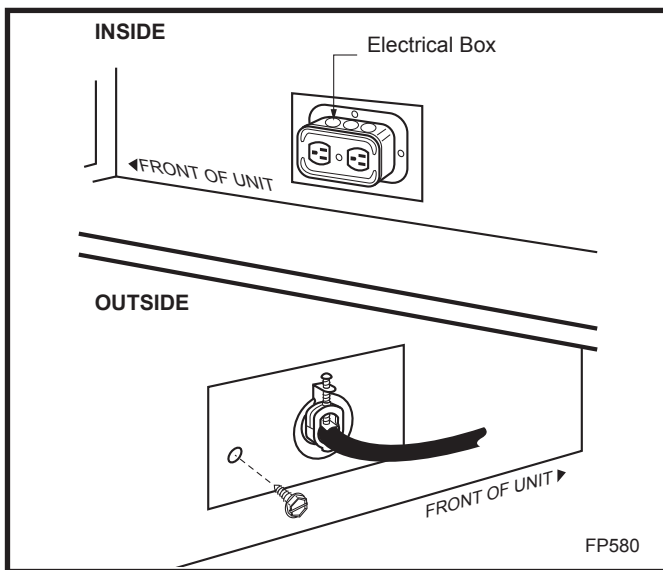

Fig. 7 EB-1 receptacle.
1. Unscrew the retaining screw from the EB-1 base plate (fig. 7) and remove the EB-1 assembly from the fireplace.
4. Feed the supply line in from the outside through the cable clamp. (Fig. 7)